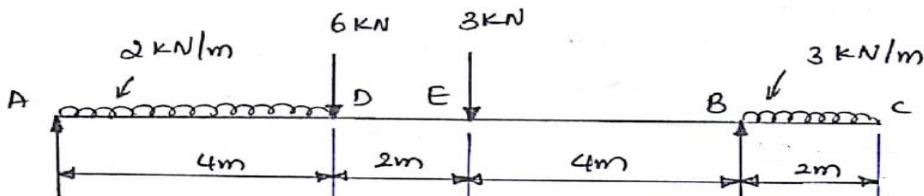

Fig. 2
- 2 Draw SFD and BMD for the beam show in fig.2. Indicate all principal values.